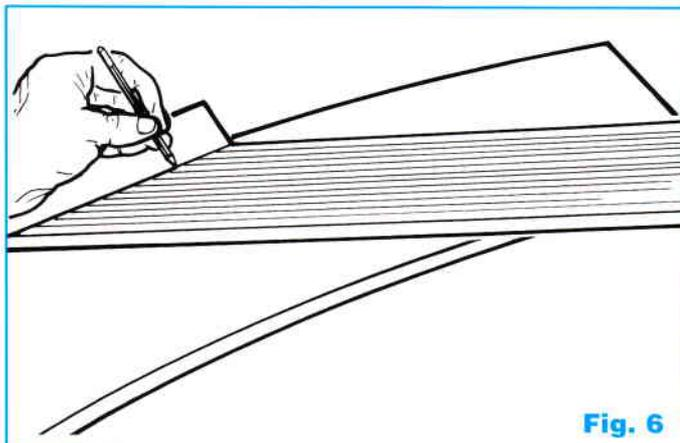

Fig. 6
Lay the two reinforcement braces (E) diagonally across the back of each arch, in the positions shown in Fig. 6 & 7. If your decking boards have a grooved side, ensure the smooth side is against the arch. Mark upper and lower cut lines on each brace at the edges of the arch. Number your braces and the arches to identify their location when re-fitting.